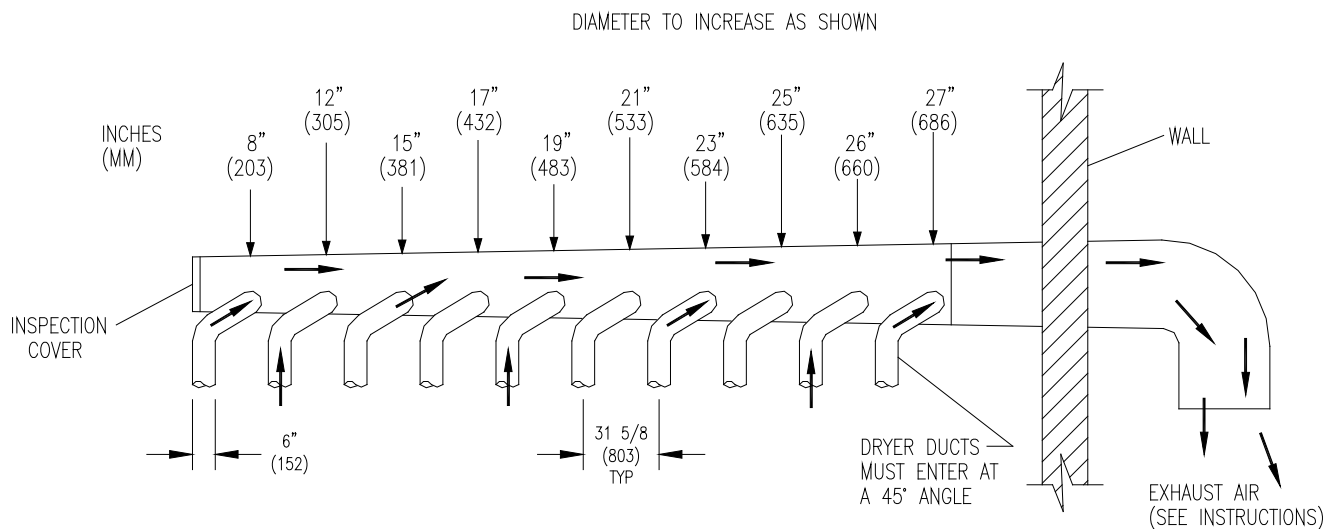

FIGURE 3— Dryer Exhausting Using A Main Discharge Duct.
6. EXHAUST INSTALLATION. (Refer to Figure 3 at the end of section 6.) The exhaust duct connection near the top of the dryer will accept a 152 mm (6 in.) round duct. Exhausting of the dryer(s) should be planned and constructed so that no air restrictions occur. Any restriction due to pipe size or type of installation can cause slow drying time, excessive heat, and lint in the room.
Installation of several dryers, where a main discharge duct is necessary, will need the following considerations for installation (see Figure 3). Individual ducts from the dryers into the main discharge duct should be at a 45-degree angle in the direction of discharge airflow.
NOTE: Never install the individual ducts at a right angle into the main discharge duct. The individual ducts from the dryers can enter at the sides or bottom of the main discharge duct. Figure 3 indicates the various round main duct diameters to use with the individual dryer ducts. The main duct can be rectangular or round, provided adequate airflow is maintained. The total exhausting (main discharge duct plus duct outlet from the dryer) should not exceed the equivalent of 14 ft. (4.25 m) and two elbows, unless 0.3 in w.c. (7.6 mm w.c.) or less can be maintained at individual dryers. Booster fans can be used to reduce static backpressure as local codes permit. The diameter of the main discharge duct at the last dryer must be maintained to exhaust end.